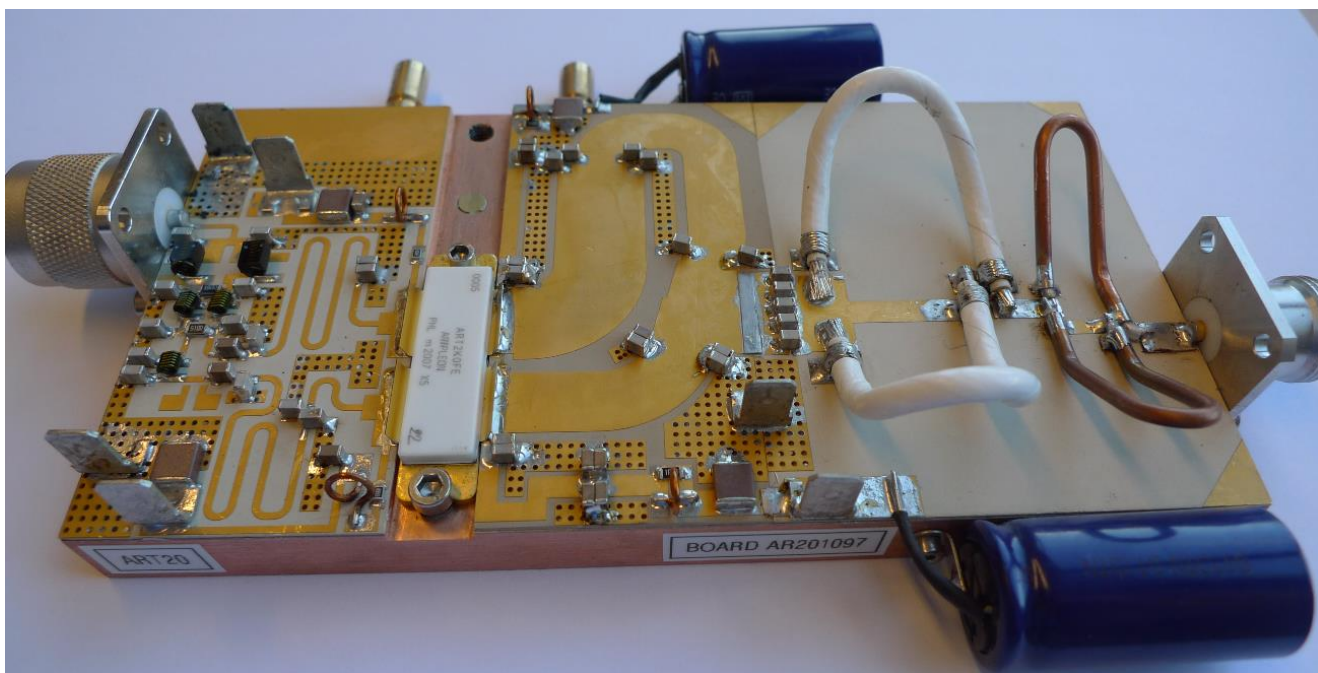

Figure 1 AR201097, 170-240Mhz demo board
- Figure 1 AR201097, 170-240Mhz demo board 3